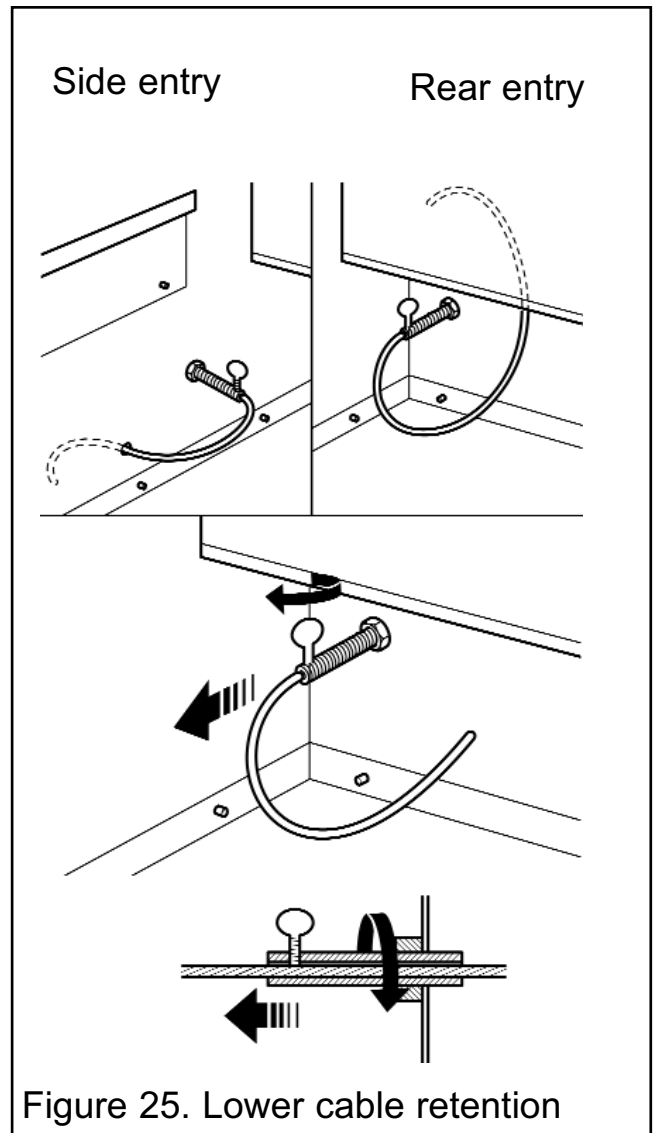

Figure 25. Lower cable retention
adjuster will pass into the hole. Tighten the screws in the retainers so that they clamp the cables in position. Apply tension to the cables by turning the hexagonal adjusters by hand (See figure 25).
**14.** Feed the free length of the cables into the gap between the inner and outer back panels so that they are available to allow easy removal and refitting of the appliance during subsequent service calls. **Do not cut off the free lengths of cable.** On precast flue installations feed the cables into the small holes at the base of the side panels (See figure 25)